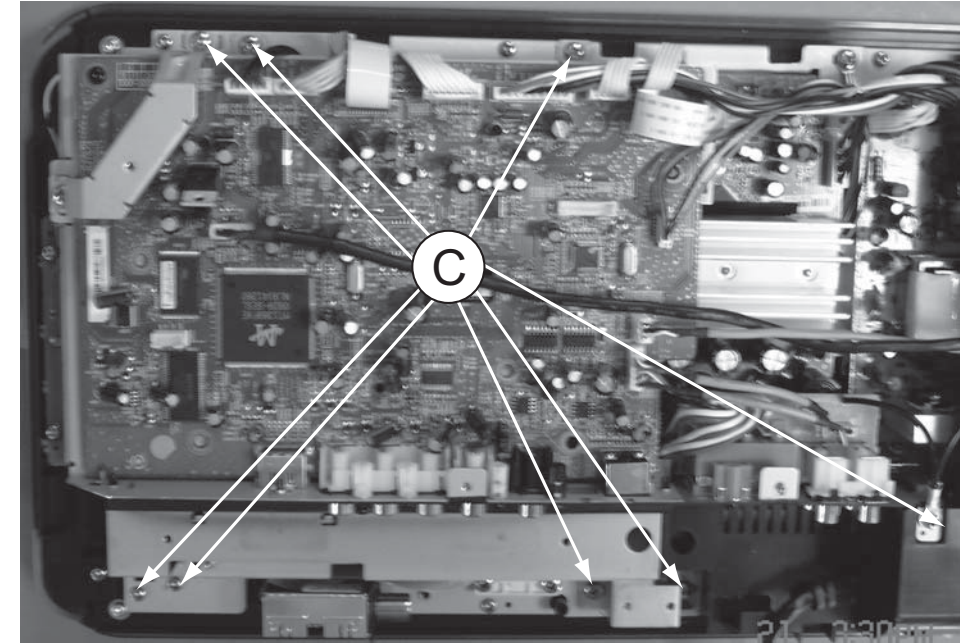

Figure 4
- 1) Loosen 8 screws "C" to remove main PCB bracket as shown in figure 4.